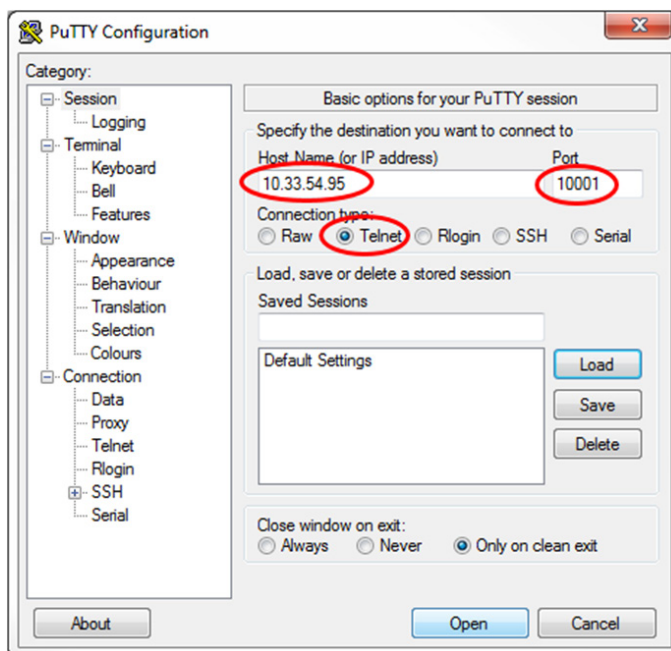

Figure 23 PuTTY Configuration Screen
- The opened connection works just like a serial connection discussed earlier (Figure 23).